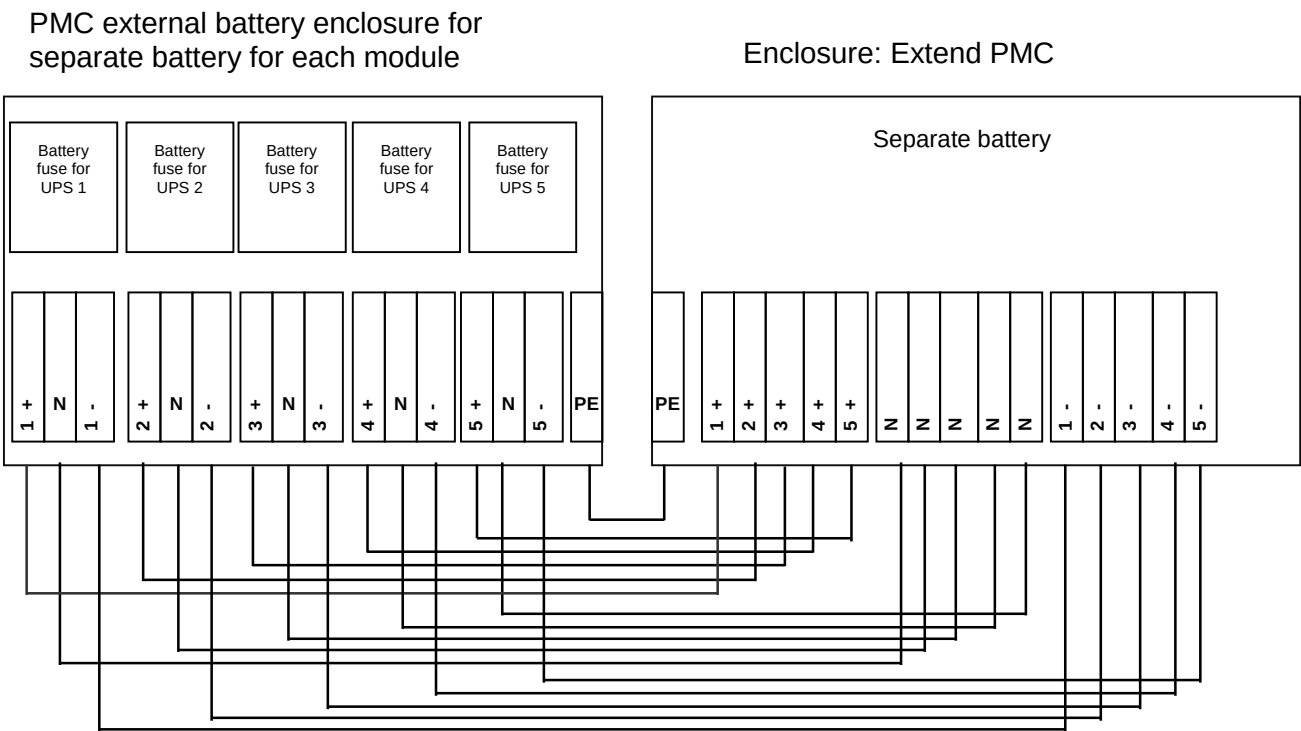
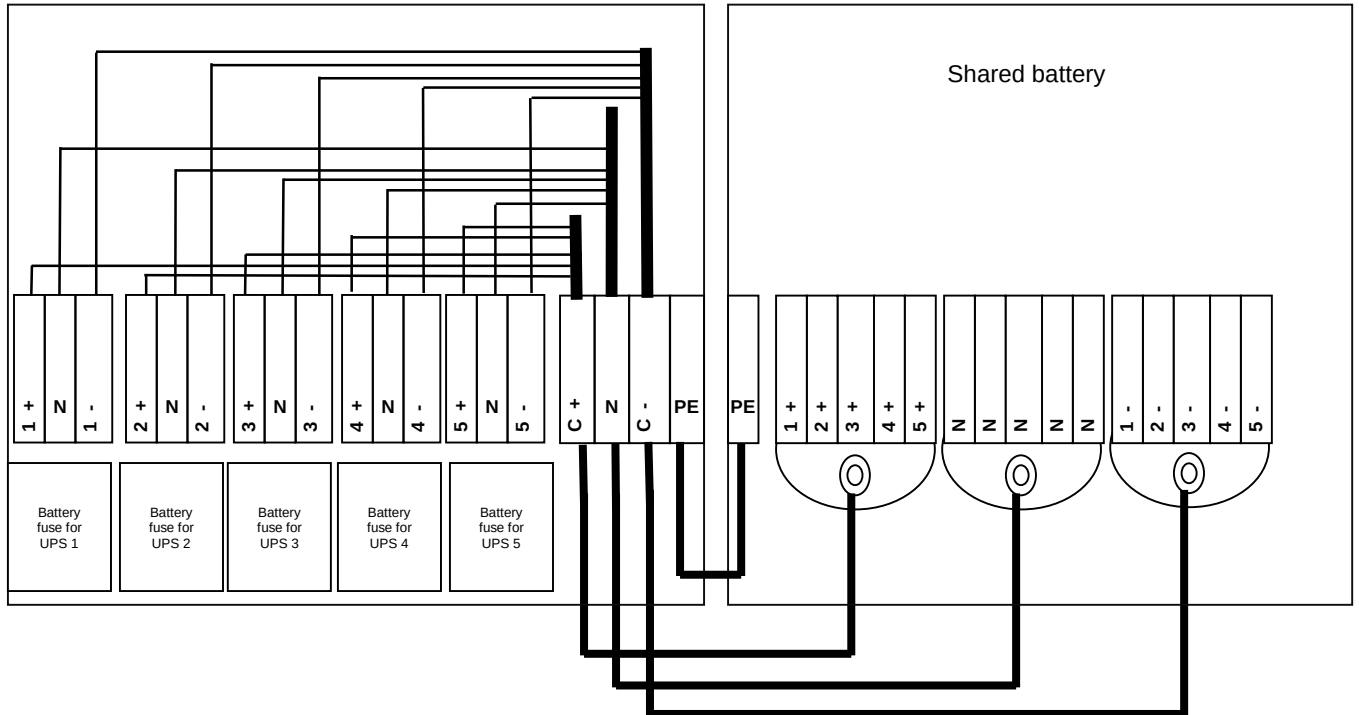

Fig. 20: Connection wiring of an external separate battery
Fig. 21: Connection wiring of an external separate battery
We recommend for redundant multiple-module systems that each UPS module is equipped with a separate battery. This extends the redundancy also to the batteries. *Fig. 20* and *Fig. 21* show how external battery enclosures are extended using the Extend PMC UPS enclosure.
5. Check that the appropriate **+**, **N**, **-** connection terminals between the UPS and the supplementary battery enclosure are connected as shown in Figures *Fig. 20* and *Fig. 21*.